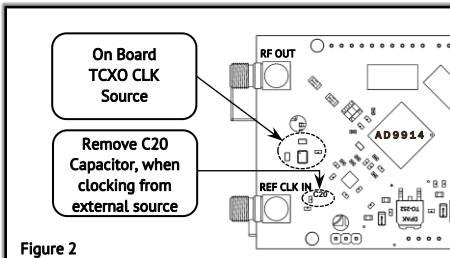

Figure 2
- Using an external source (TCXO/OCXO/Clock Generator with output impedance **50 Ohm**), when using it, **make sure that capacitor C20 (100nF 0603) is removed** (Figure 2). This will **disconnect** on board TCXO **output** from **DDS Clk input!**
When using an **external clock source**, the signal is fed to the **SMA** connector labeled **"REF CLK IN"**, when using it, **make sure that capacitor C20 is removed** (Figure 2).